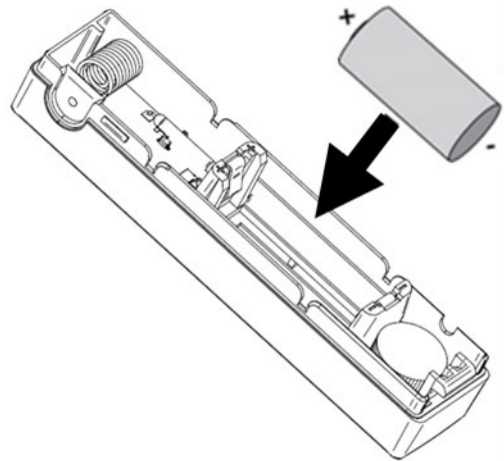

Figure 3
3. Place a battery as instructed in Figure 3 and wait until the Red / Green LED stops blinking.